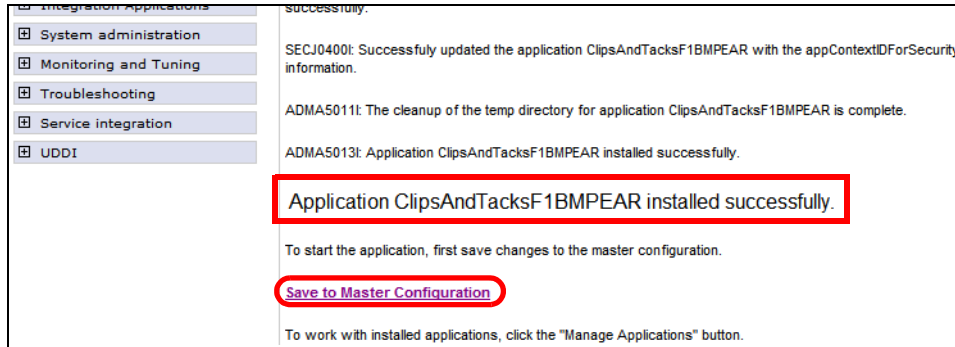

Figure 14-4 Successful installation of the monitor model application
- ▶ Click *Save to master configuration* to save the changes (Figure 14-4). Click *Save* on the confirmation panel.